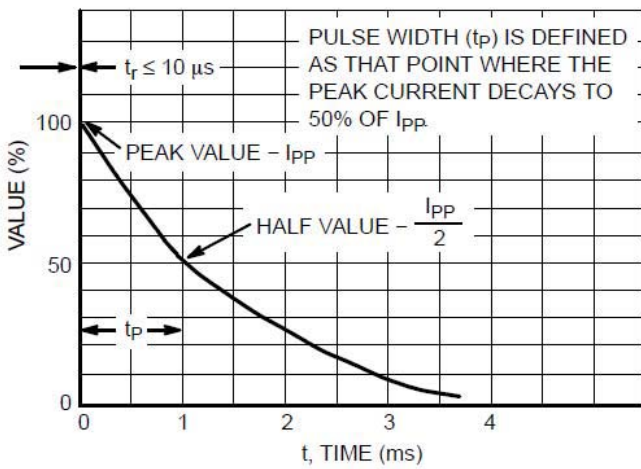

Figure 6. Pulse Waveform
- ◆ Peak power 24 or Watts @ 1.0ms (unidirectional) per Figure 6 Waveform